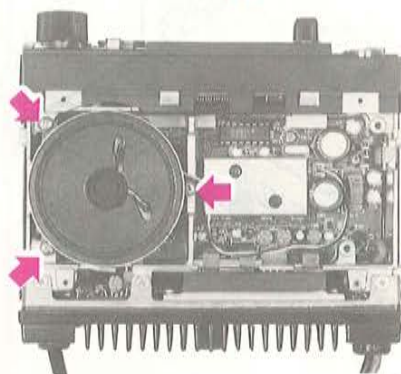

Figure 2
- (1) Referring to Figure 2, unplug the speaker wire connector from J1005 on the Main Unit, and lift the loudspeaker out of its bracket.
- (2) Remove the three screws in the arms of the speaker bracket and remove the bracket.